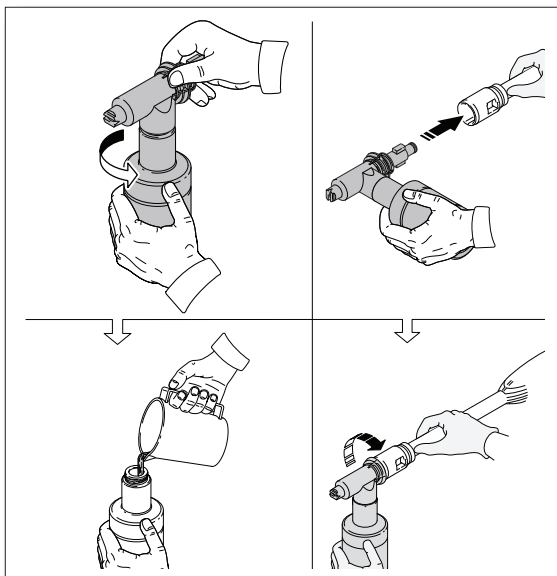

Fig. 10
- The detergent bottle connects directly onto the gun (**Fig. 10**). When using the detergent bottle fill it with a properly formulated detergent or cleaner with a water ratio according to instructions on the container. The detergent bottles comes with a straw which is attached onto the screw-on top. If you do not see the straw, look inside the bottle and attach it to the screw-on top.